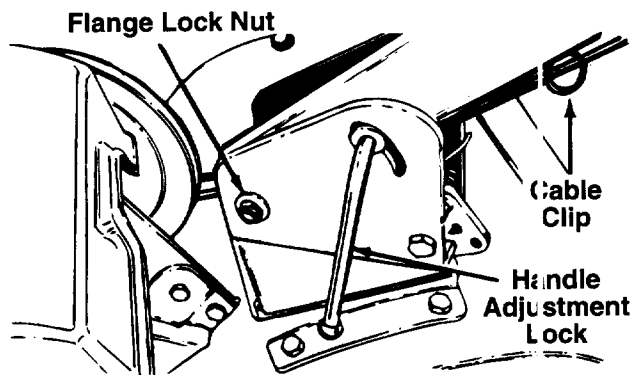
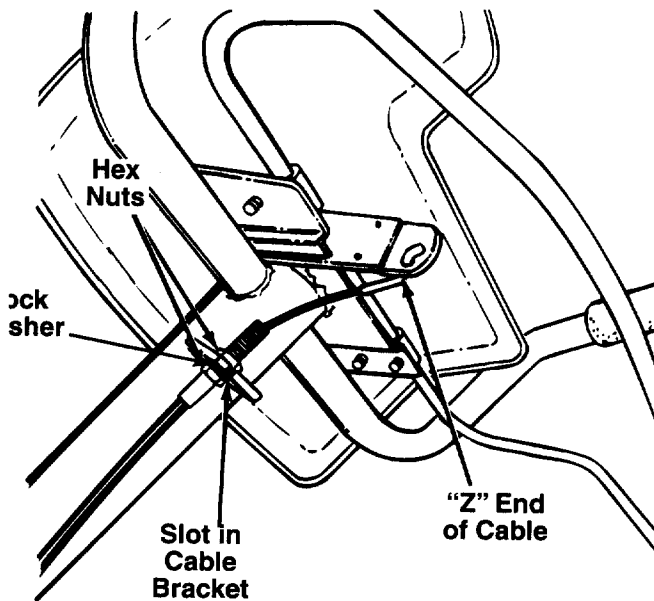

FIGURE 3.
FIGURE 7.—Viewed beneath handle panel.
6. Secure bottom of handle by placing flange lock nut on hex bolt. Do not tighten at this time. See figure 3.
1. Route the clutch cable through the cable clip underneath the handle. Be careful not to bend or kink the cable. Refer to figure 3. Remove one hex nut from the threaded casing on the end of the cable. See figure 7.
3. Pull the cable upwards to obtain slack, and hook the "Z" end of the cable into the bracket on the clutch control (beneath the handle panel) as shown in figure 7 (from right to left). Tighten the nut against the cable bracket.
If the belt turns with the unit in neutral, adjust by moving the hex nut below the cable bracket **down** a few turns. See figure 7. Tighten the upper hex nut against the bracket.